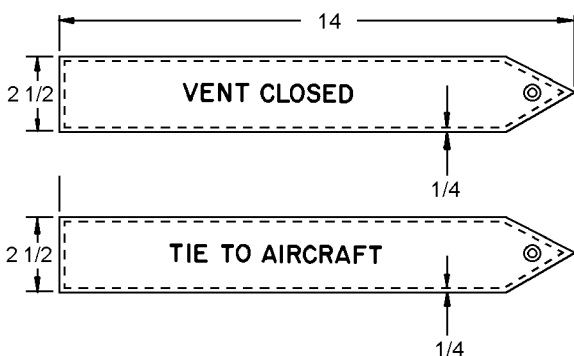

Figure 11-26. Streamers
5. Attach locally fabricated vent valve streamer (figure 11-26) to vent manifold assembly. Streamer shall remain attached to vent until liferaft compartment door is ready for closing.
15. Attach locally fabricated red streamer (Tie To Aircraft, figure 11-26) to end of painter line. Streamer shall remain attached until line is attached to aircraft.